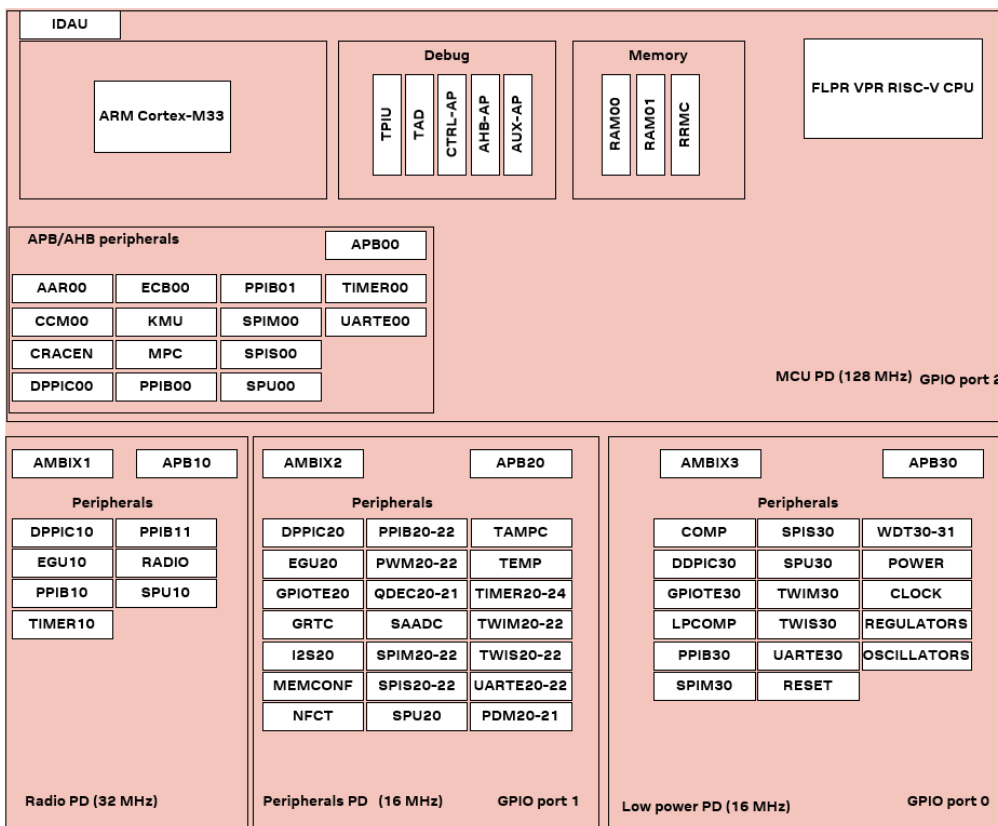

Figure 2: Power domains
NORA-B2 features multiple Power Domains (PD) for low-power operation, including fast MCU and lower speed domains. Figure 2 shows the power domains, the integrated ARM Cortex processor, peripherals, and other functional units supported in NORA-B2, which feature:
Three of the power domains have their own GPIO ports. The GPIO pins can be used by peripherals in the same power domain. Selected port 2 pins, **P2.00-P2.10**, can be used for some serial interfaces in the peripheral domain SPIM, SPIS, and UARTE, as described in Error! Reference source not found.. For information about each instance's power domain and the related GPIOs, see Figure 2. Refer to nRF54Lxx datasheet [4] for more information, and the interconnections between different power domains.